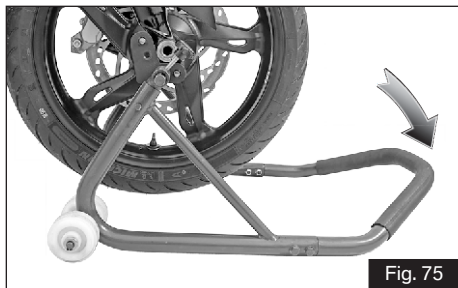

Fig. 75
- ◆ Apply uniform pressure to push the stand down and raise the motorcycle. (ref. Fig. 75)
- ◆ Tighten the clamping screws (1).